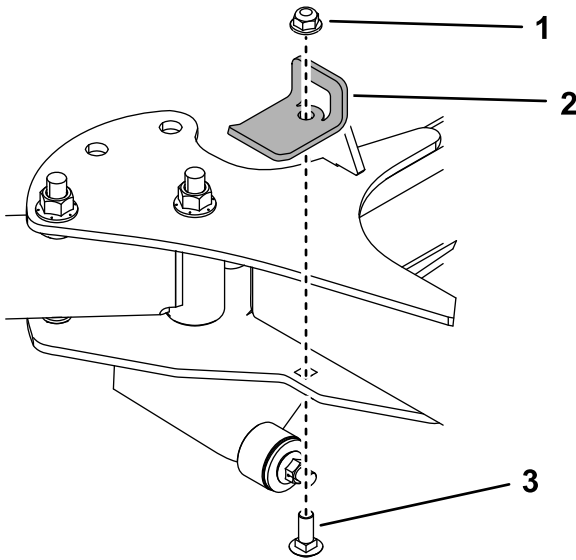

Figure 24
- Remove the stop brackets (Figure 24).